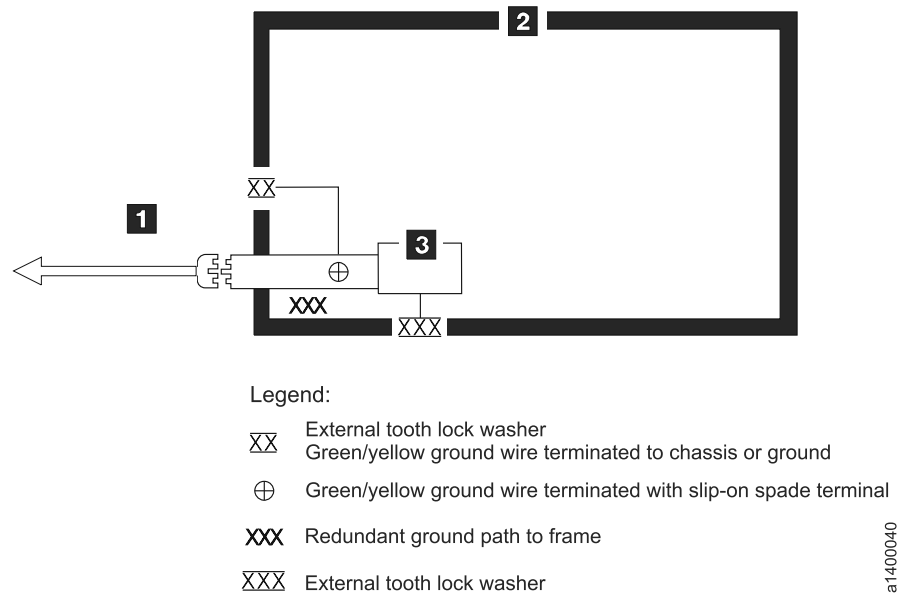

Figure 1. AC grounding diagram (50 Hz and 60 Hz)
3. See Figure 1 on page xix which is provided for reference only. Disconnect the power cord from its source.